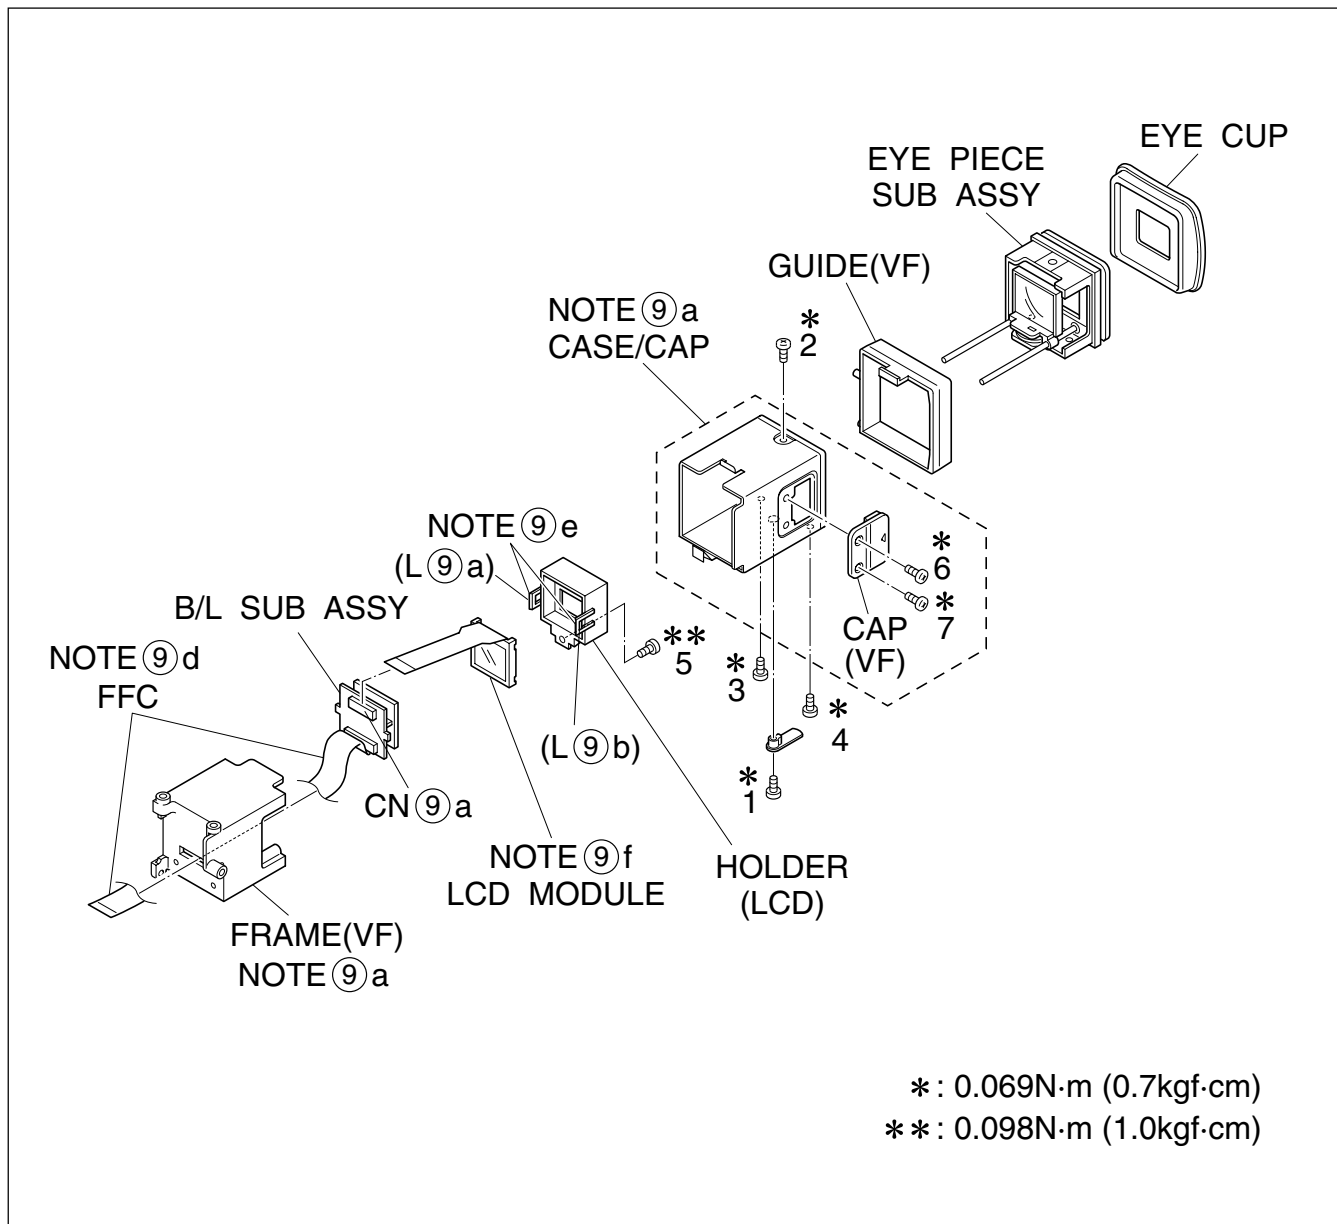

Fig. 1-6-1
NOTE ⑨d: Refer to Fig. 1-6-1 for the disassembly method.
Reference drawing	Fig. 1-6-1